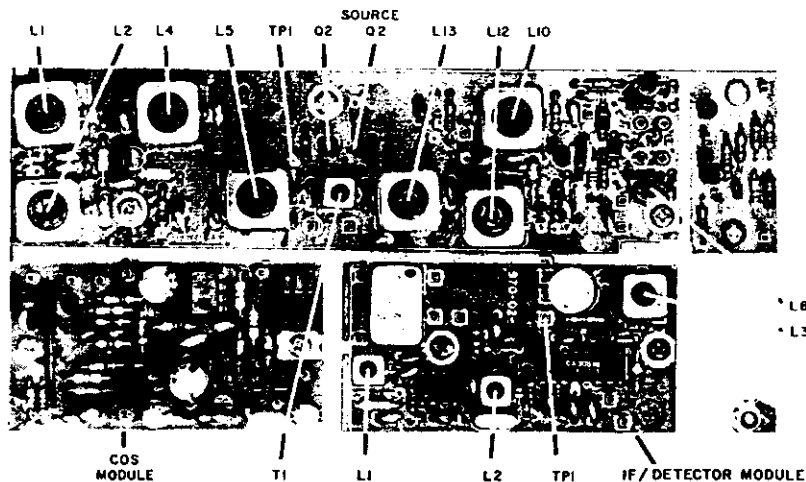

Fig. 6-3
3. Connect a DC voltmeter at the source of Q2 and tune L10, L12 and L13 for maximum voltage (See Fig. 6-3). 2.5 volts is typical.